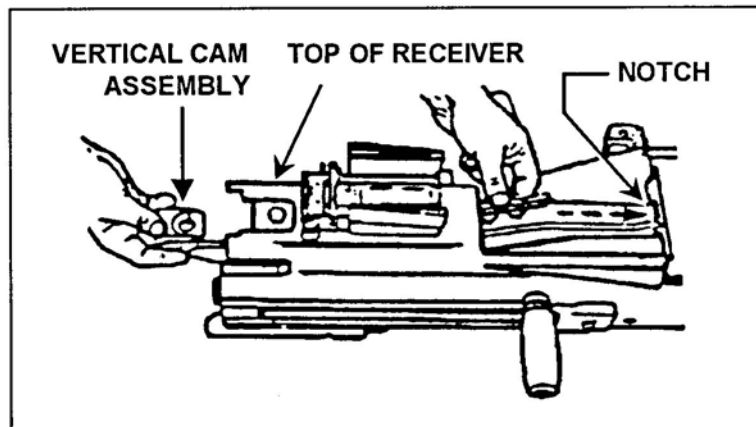

Figure 22. Engaging the vertical cam assembly.
- h. Engage the vertical cam assembly (Figure 22).